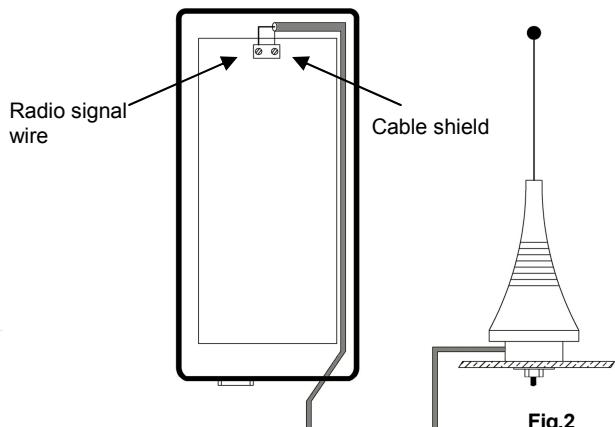

Fig.2
- Run the cable of the external antenna in the hole already made and connect it to the terminal board: the cable shield must be connected to the right contact, and the radio signal wire to the left contact (Figure 2):